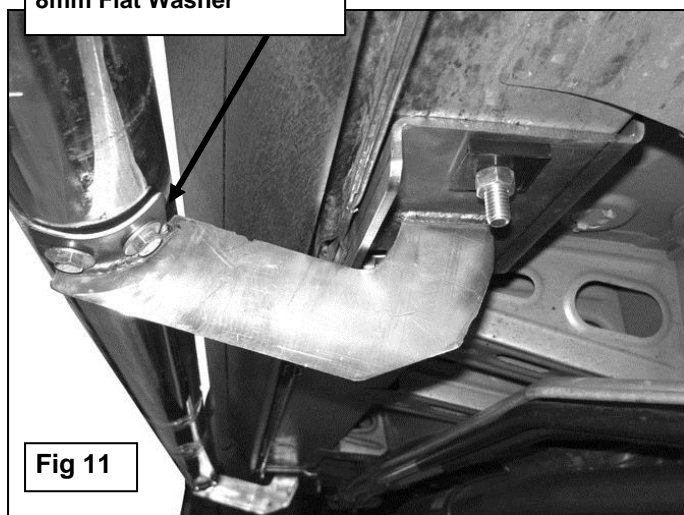

Fig 11
8. Carefully position the passenger Sidebar onto the Mounting Brackets. Bolt the Sidebar to the Mounting Brackets with the included (4) 8mm x 25mm Hex Bolts, (4) 8mm Lock Washers and (4) 8mm Flat Washers, (**Figure 11**).